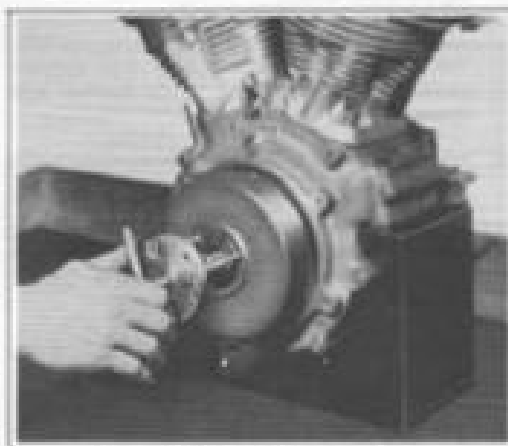

Figure 5-15. Pulling Alternator Rotor
7. See Figure 5-15. Using Puller, Part No. 95950-02A, pull the alternator rotor from the engine sprocket shaft.